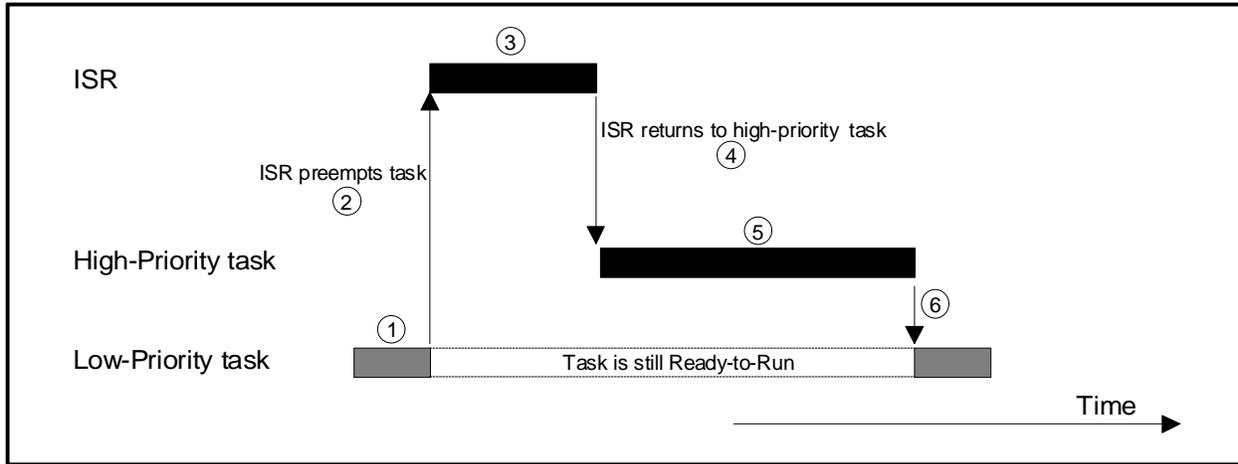

Figure 1, Execution profile of a preemptive kernel such as µC/OS-II.
Most real-time kernels are *preemptive*. A preemptive kernel ensures that the highest-priority task ready-to-run is always given control of the CPU. When an ISR (Interrupt Service Routine) makes a higher-priority task ready-to-run, the higher-priority task will be given control of the CPU as soon as all nested interrupts complete. The execution profile of a system designed using a preemptive kernel is illustrated in figure 1. As shown, a low-priority task is executing ①. An asynchronous event interrupts the microprocessor ②. The microprocessor services the interrupt ③ which makes a high-priority task ready for execution. Upon completion, the ISR invokes a service provided by the kernel which decides to return to the high-priority task instead of the low-priority task ④. The high-priority task executes to completion, unless it also gets interrupted ⑤. At the end of the high-priority task, the kernel resumes the low-priority task ⑥. As you can see, the kernel ensures that time critical tasks are performed first. Furthermore, execution of time critical tasks are deterministic and are almost insensitive to code changes. In fact, in many cases, you can add low-priority tasks without affecting the responsiveness of you system to high-priority tasks. During normal execution, a low-priority task can make a higher-priority task ready for execution. At that point, the kernel immediately suspends execution of the lower priority task in order to resume the higher priority one.